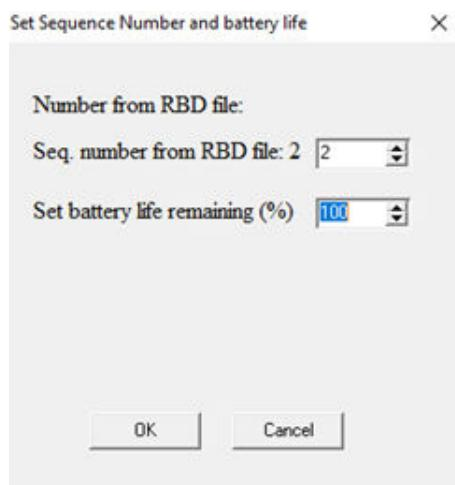

Figure A.4: Set Sequence Number.
5. Insert the sequence number and remaining battery life (see Figure A.4). Note that if the sequence number is set too low, data will be overwritten.
6. The **SeaStar** software downloads the RBD file into the recorder and the window in Figure A.4 appears. Click **OK**.